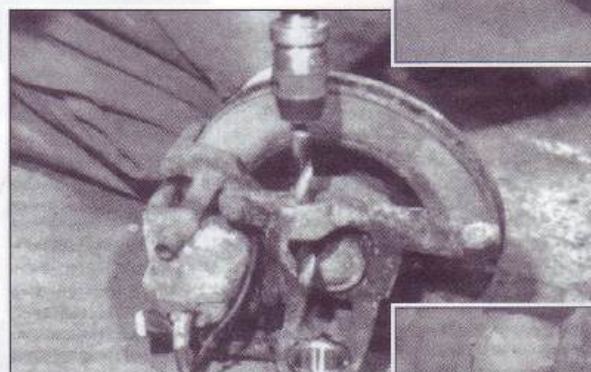

Fig.2j. Enlarging hole to 14mm.
9. In order to fit the Sierra uprights, the pivot pin hole must be enlarged from 12mm to 14mm. This should be done carefully with a 14mm drill (fig.2j.) or undersize drill and a reamer.